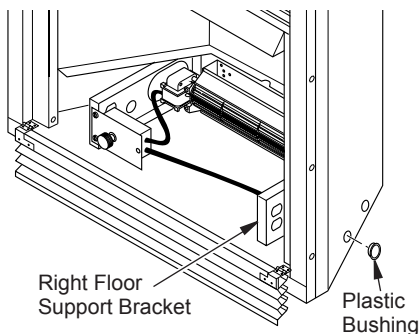

Figure 22 - Installing Plastic Bushing for Power Cord
- a. **If your fireplace system is installed as a freestanding unit with an accessory mantel,** determine whether the power cord will exit the left side or the right side of the firebox. Install 1 plastic bushing provided into the 1.5" hole in the floor support bracket on the exit side (see Figure 22). Install the second plastic bushing provided into the 1.5" hole in the outer casing through which the power cord will exit. Route power cord through both plastic bushings and plug the power cord into a properly grounded 3-prong wall receptacle near the firebox.